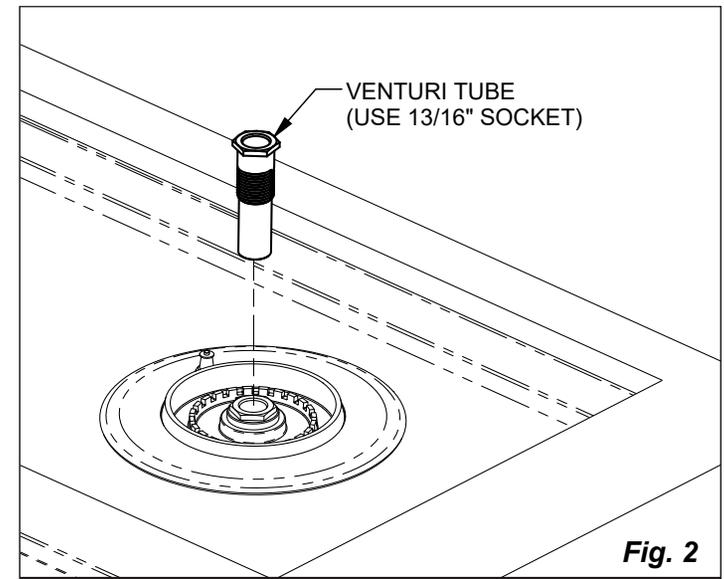

Fig. 2
3. Using a 13/16" socket wrench, remove the brass venturi tube and set aside. (Fig. 2)